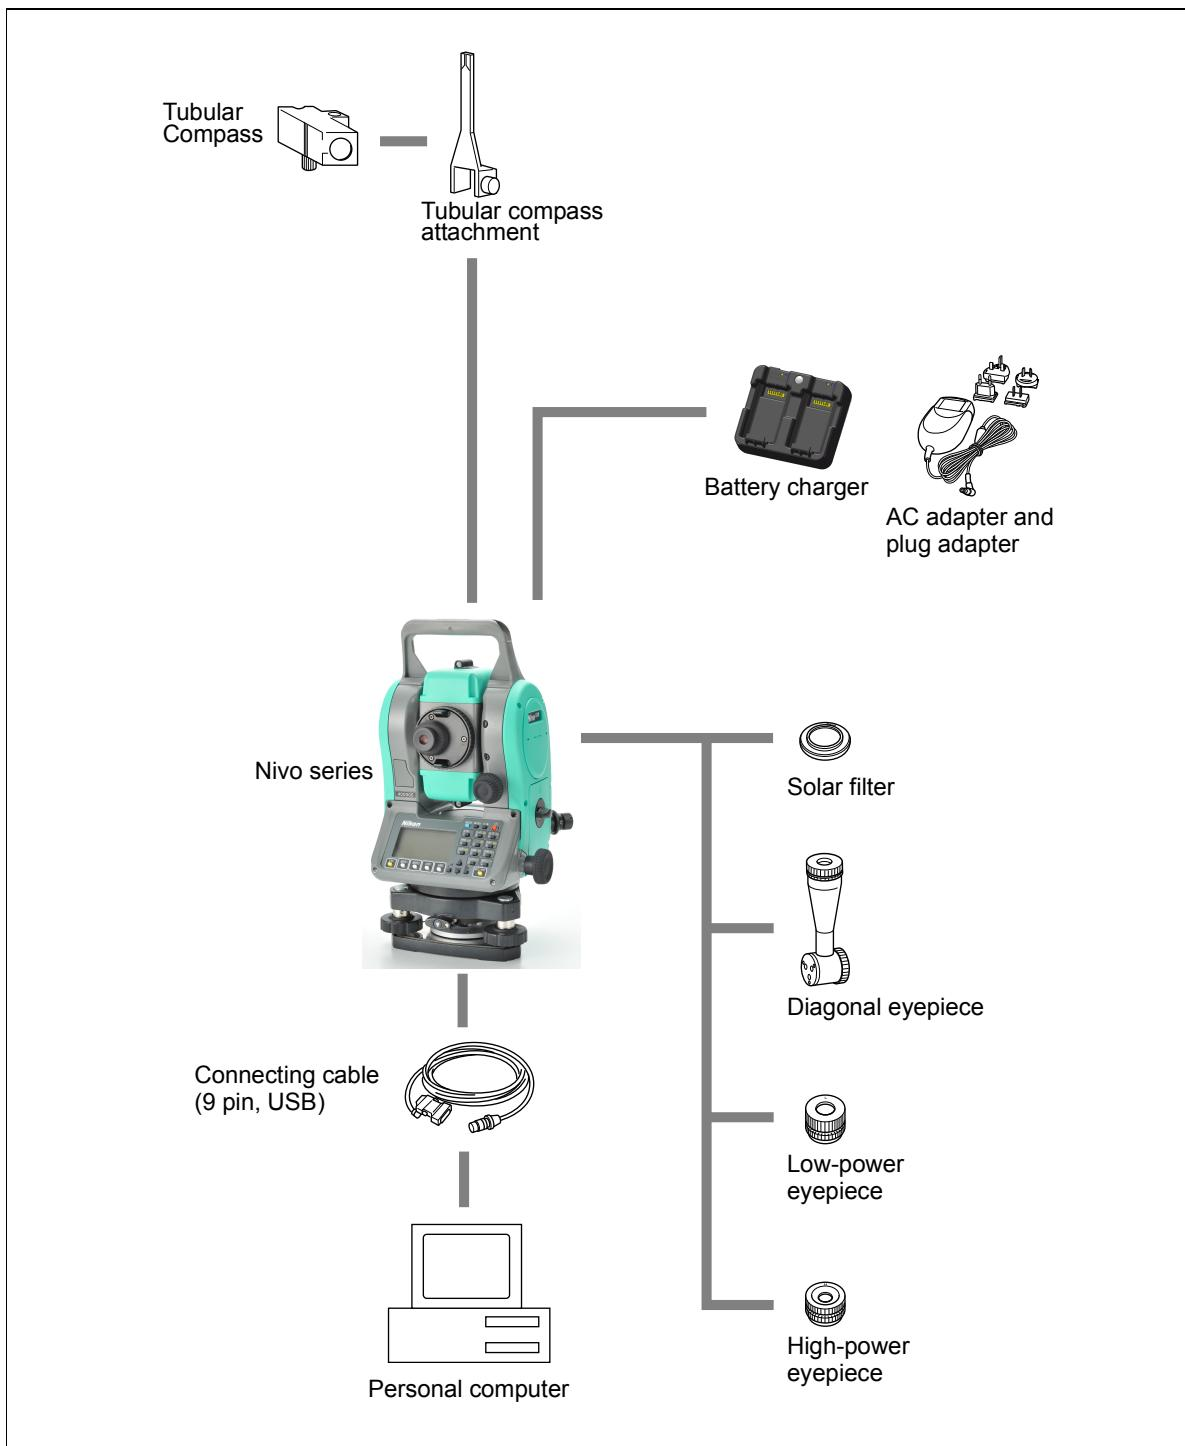

Figure 8.1 Measurement side
**CAUTION** – Except for the connection shown in Figure 8.1 on page 154, use of this connector is at your own risk.